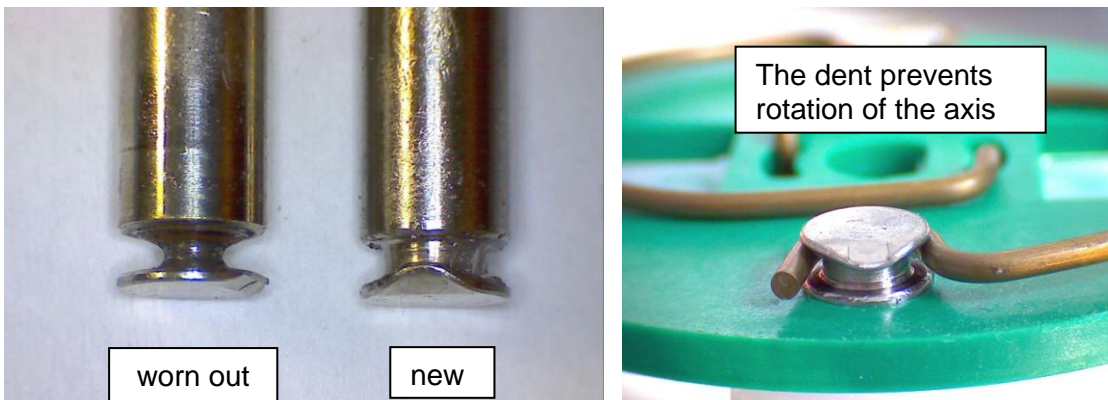

Figure 18 Check of axes and rolls
3. Remove the pump head ② from the motor shaft.
5. The removal of the springs 4 pcs.) ③ away from the driver is easily possible without the aid of any tools. For this take spring out of the groove ④ near to the shaft bore.
6. Dismount roller axes and change contact pulleys. Take care that axes are not worn out by the springs and have damaged the dent at the axes front end. In case of abrasion the axes have to be changed (see Figure 18).
1. Make sure that contact pulleys move easily on the axis. After remounting the axis with contact pulley into the driver the spring has to be mounted as shown as in Figure 18. Please pay attention to the alignment of the dent.